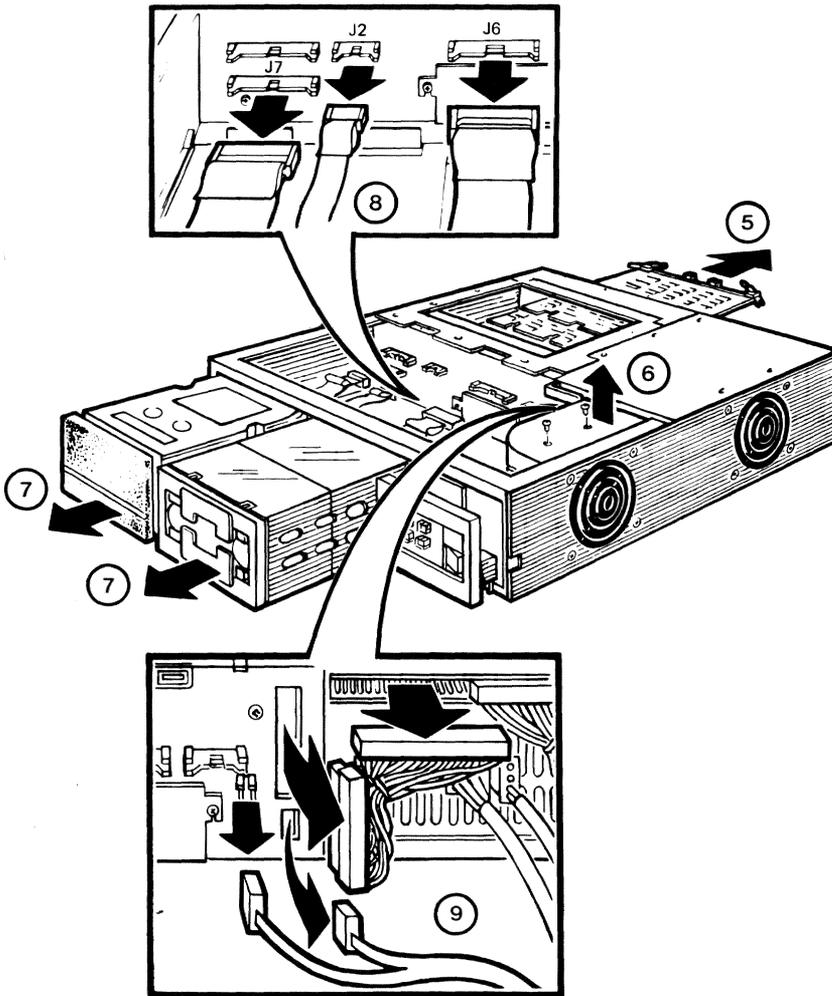

Figure 6-13 Backplane Removal (Steps 4-9)
5. Remove all the system modules. (Figure 6-13) (See Paragraph 6.9.)